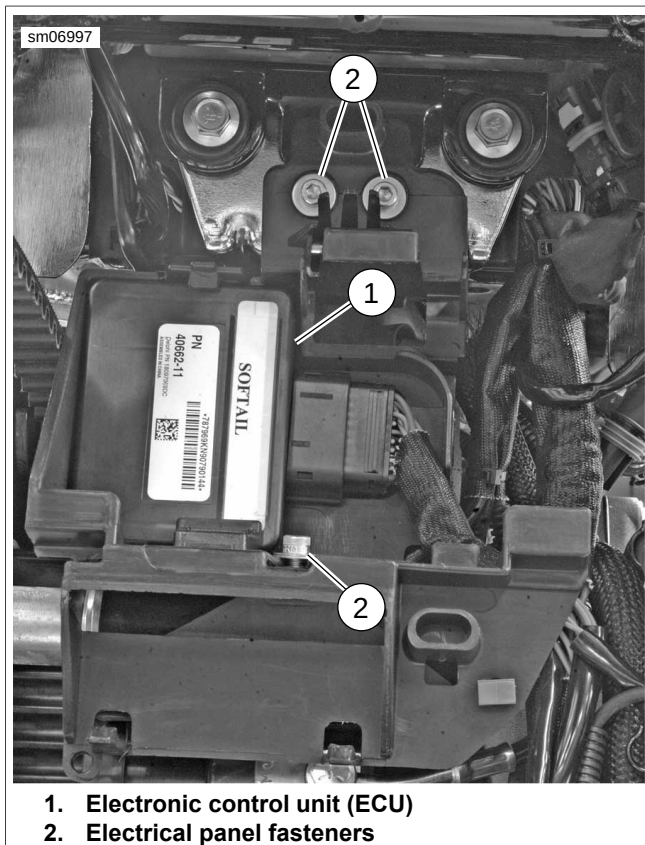

Figure C-2. Electrical Panel
6. See Figure C-2. Detach electronic control unit (ECU) (1) from electrical panel and remove electrical connector.
1. See Figure C-2. Connect ECU connector and install ECU (1) onto electrical panel.